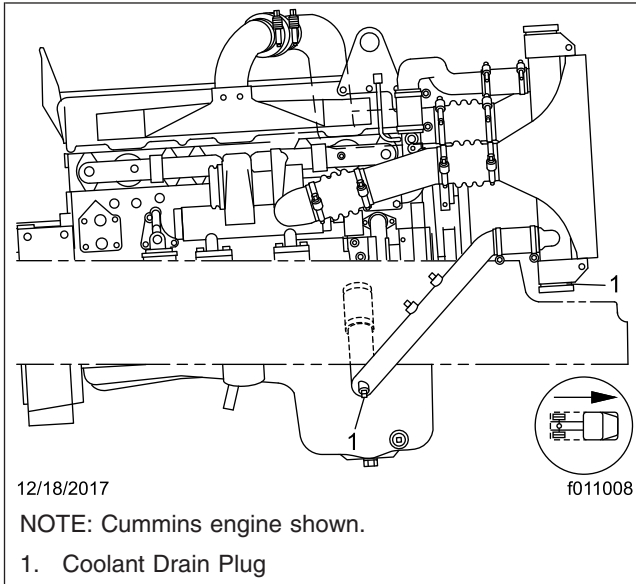

Fig. 2, Coolant Drain Plug Location
4. Remove the drain plugs at the radiator side tank and at the lower radiator outlet pipe elbow, if equipped. See Fig. 2. Allow the coolant to drain.